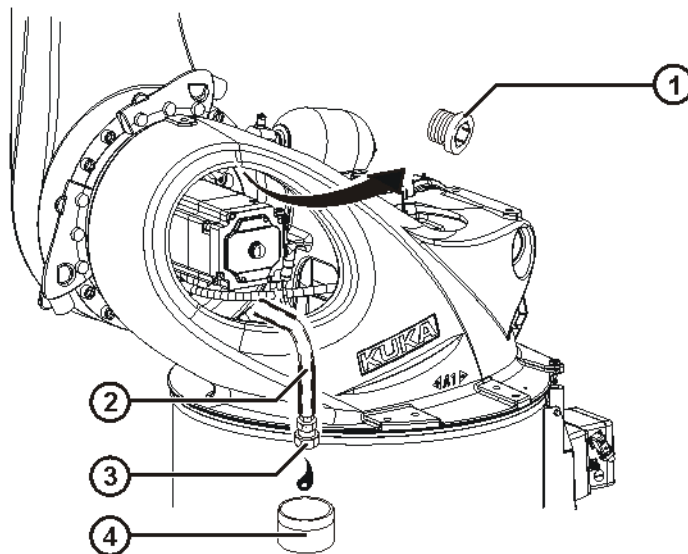

Fig. 9-22: Draining oil on A2
1. Pull the oil drain hose out of the rotating column (>>> Fig. 9-22).